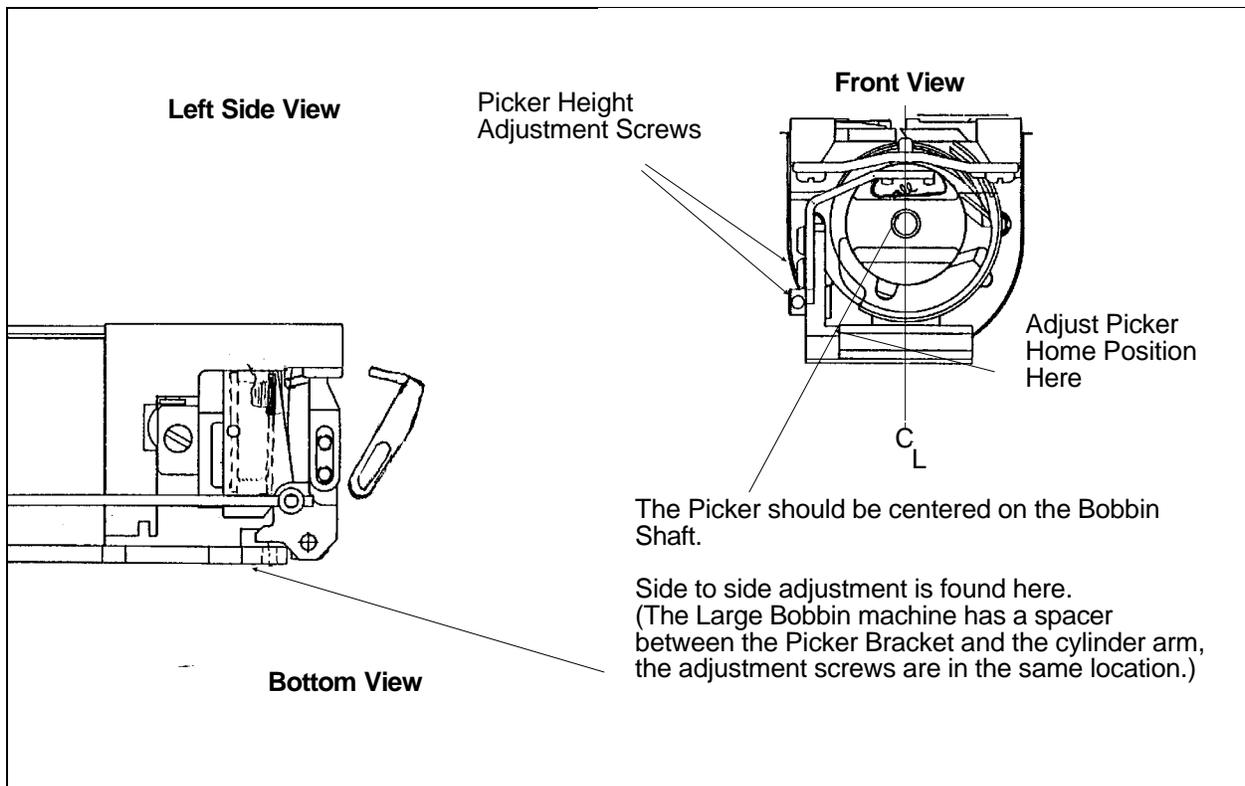

Fig. 2-14
8. Home Position is adjusted at the wire pivot interface, shown in Fig. 2-14. The wire should protrude a little, between .010 and .060 inches through the interface. Be careful, more than .060 inches of wire protrusion and you run the risk of binding on the wire on the Picker Height adjustment screws when the Picker tries to go to Home.